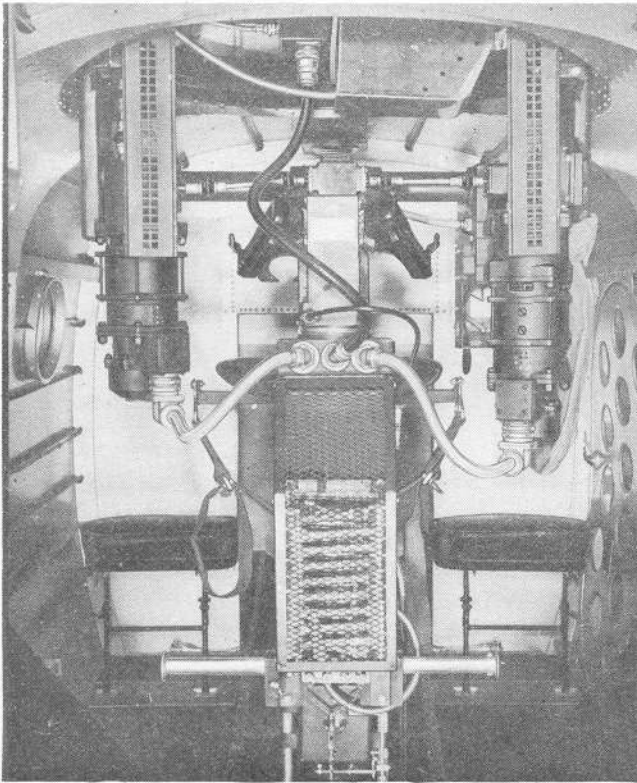

Figure 11—Crocker-Wheeler Turret Installation
2. The Crocker-Wheeler turret (figure 11), also electrically operated, is equipped with one .30-caliber Browning aircraft machine gun. The gun is equipped with an electric firing solenoid and an ammunition magazine. An S. F. Bowser Co. reflex gun sight (N-6) and a 16 mm gun sight aiming-point camera is mounted rigidly on the gun carriage. The turret has a continuous rotating movement of 360 degrees and the gun has an elevation of 0 to 85 degrees. The Crocker-Wheeler turret has a cam arrangement which prevents machine gun from firing when pointing at any portion of the airplane. The Beech turret makes no provisions for this and care has to be exercised in firing the machine gun in the directions of the vertical stabilizers, wing tips, propellers, and forward portion of fuselage.